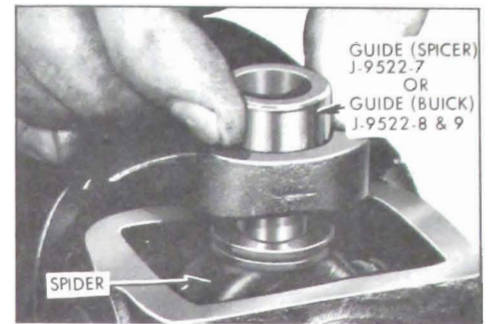

Figure 6-97—Installing Guide
5. Release the pump and the propeller shaft. Install Guide J-9522-8 through the bearing hole in the link yoke and over the journal end of the spider. See Figure 6-97. This guide assures alignment of the spider while removing the opposite bearing.